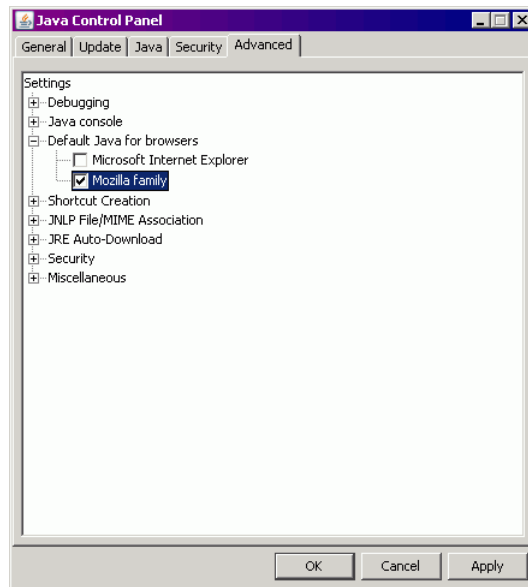

FIGURE 2 Default Java for browsers option
2. Click the **Advanced** tab and expand the **Default Java for browsers** option, as shown in Figure 2 on page 9.